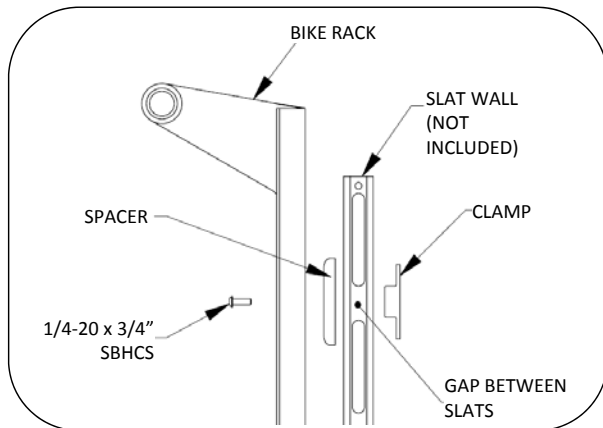

Fig. 1 – attach bike rack to Upfit slat wall
1. Install bike rack using provided spacer, clamp and screw – 2 locations per bike rack – as shown in Fig. 1. Slat wall needs to be a minimum of 72" tall.